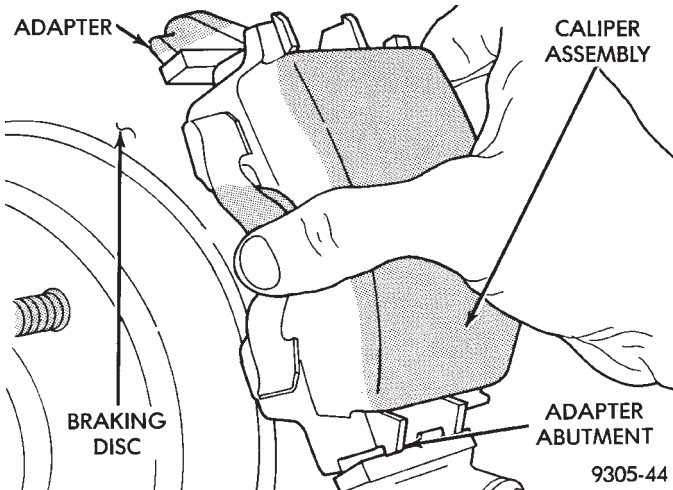

Fig. 44 Removing / Installing Caliper
(4) Remove caliper from adapter using the following procedure. First rotate top of caliper away from adapter. Then lift caliper assembly off bottom abutment of adapter to remove it from the vehicle (Fig. 44).
(7) Carefully lower caliper and brake shoes over rotor and onto adapter, reversing the removal procedure (Fig. 44).